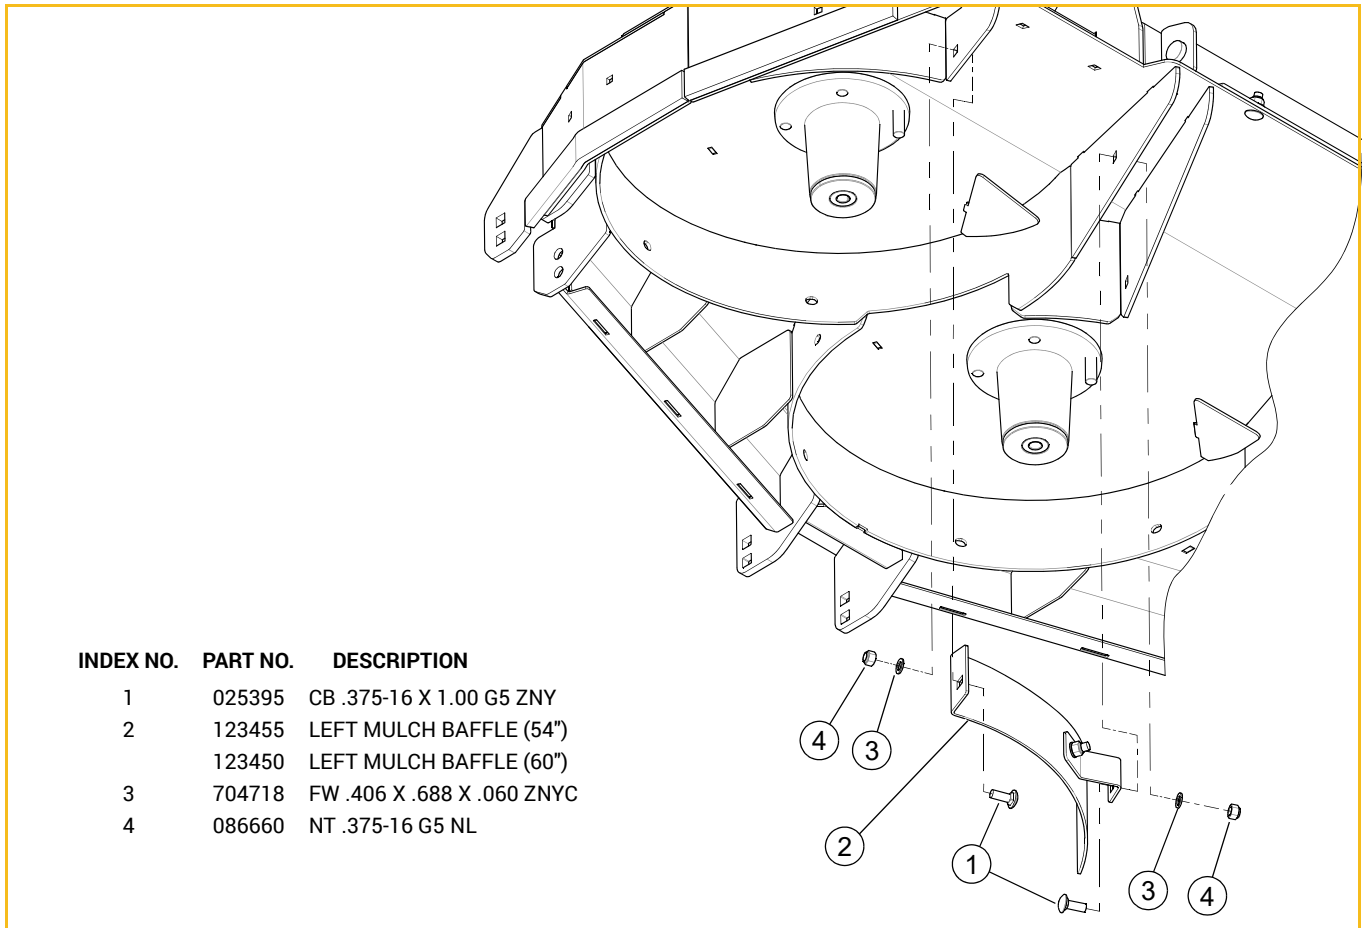
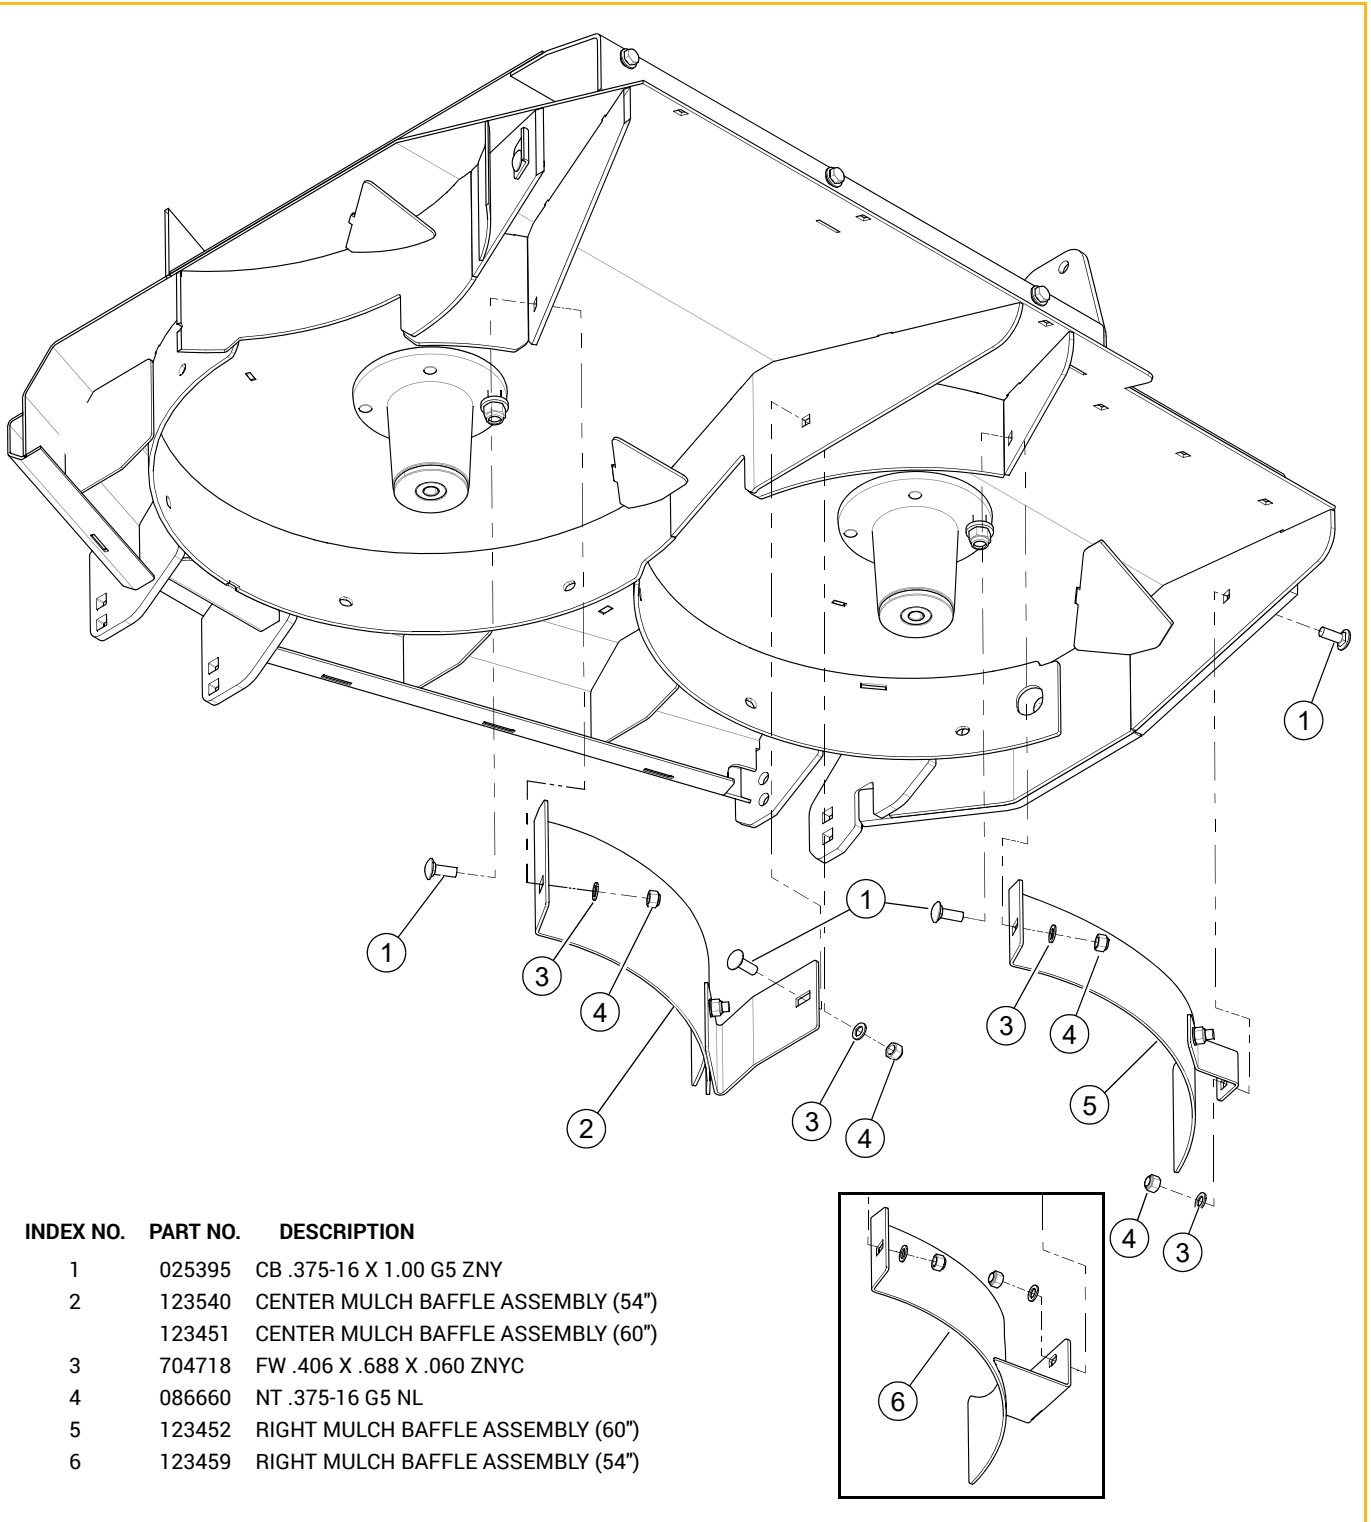

FIG. 3
FIG. 4
6. Install the left baffle as shown. (FIG. 3)
7. Install the center baffle assembly and the right side mulch baffle as shown. (FIG. 4)
3. Remove the left side mulch assembly, the center mulch assembly, and the right side mulch assembly from the underneath side of the deck. (FIG. 3 & FIG. 4)